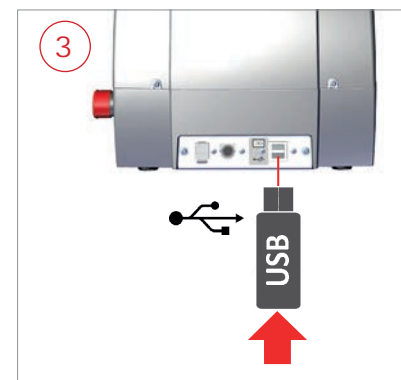

Fig. 14
- 2) Insert the USB PEN DRIVE into a PC connected to the internet (Fig. 14).
Insert the USB PEN DRIVE into the special port on Futura AUTO (Fig. 14). Follow the instructions on the screen: tap the “RE-START FUTURA” button to re-start the Futura AUTO machine.